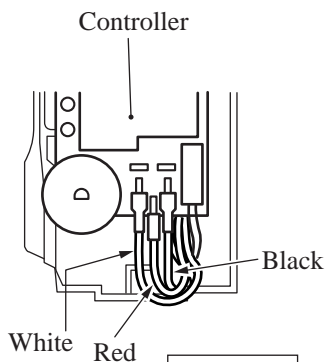

Figure 6
- f. Pull out the 3 pieces of terminals (white, black and red).(See the figure 6.)